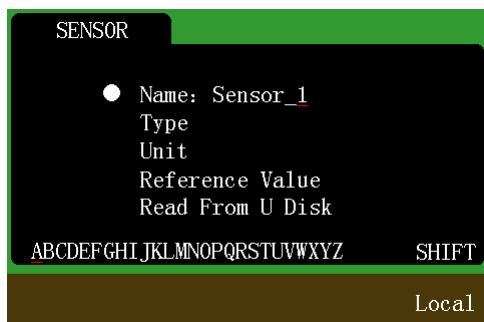

Figure 5-26 Name the sensor item
1. When the dot cursor stays at "Name", press the left / right arrow key or the Enter key to name the sensor item, as shown in Figure 5-26. In this interface: